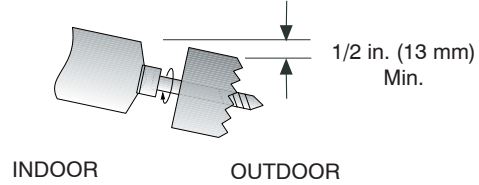

Fig. 25 - Drill Holes
1. Determine pipe hole position using the mounting plate as a template. Drill pipe hole diameter per chart below. The outside pipe hole is 1/2-in. (13 mm) min. lower than inside pipe hole, so it slants slightly downward (see Fig. 25). If piping is going to exit from the left rear, it is recommended to field-fabricate piping extensions to get the flare connections to the outside of the wall.